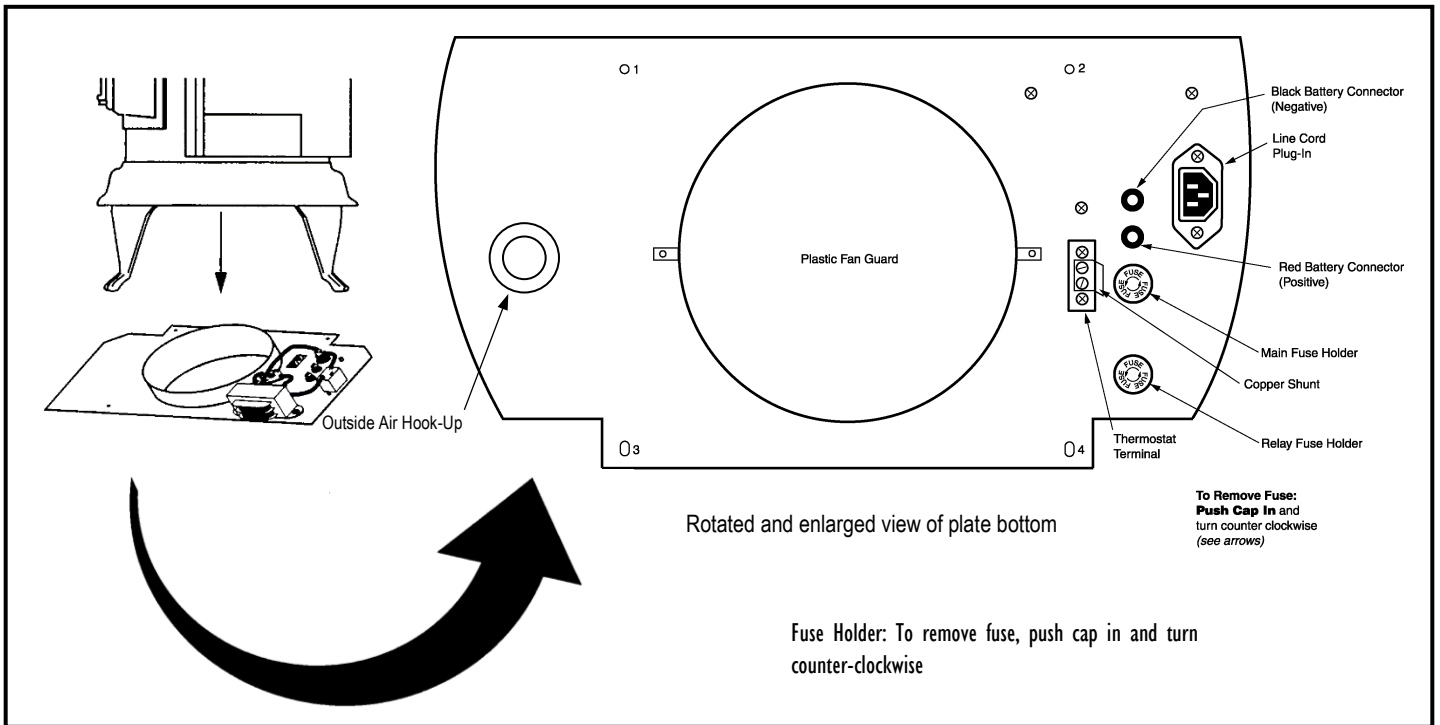

FIGURE 10
This unit has been approved for use with a **3" and 4" Type L Pellet Vent System**. On runs in excess of 10' and installations per Figure 10, the 4" pipe must be used.
3. Outside air required (see Figure 10).
A wall or remote thermostat can be hooked to run the Parlour 3000 E.I. automatically. The following is a step-by-step procedure for installing the optional thermostat. Note connection terminals on the bottom right side of the unit (see Figure 10). Use 18/2 thermostat wire for installation.
2. Hook up the thermostat wires to terminals (see Figure 10). Remember to remove copper shunt. disconnected. If a remote thermostat is used you will have to mount the "receiver" to the bottom of the stove with Velcro and then hook up receiver wires to the terminal (see Figure 10). Follow thermostat manufacturer's instructions.
thermostat terminals on the bottom of the stove. (See Figure 10) We recommend you run the heater on "High" for about 30 minutes to get the heat exchanger hot before turning it to "Low." You will need to burn the heater for a few hours before deciding which setting is best for your particular needs.